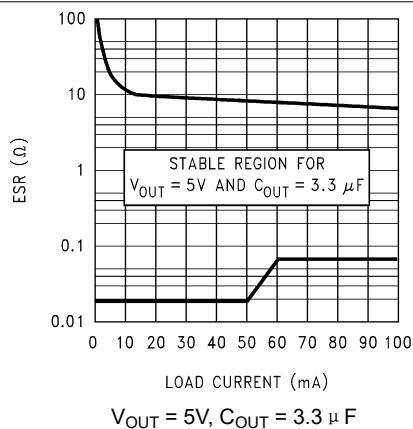
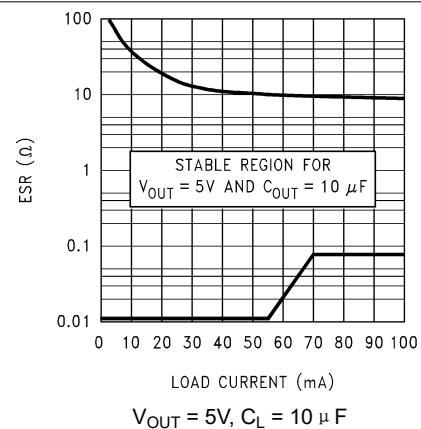
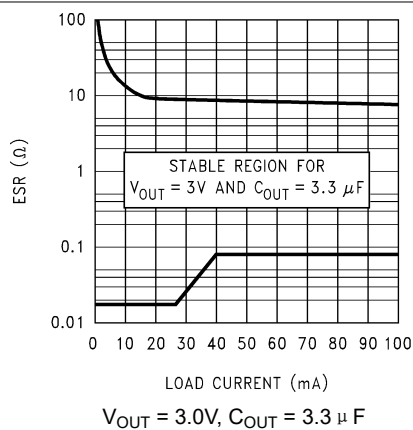

图 7-3. 5V, 3.3  $\mu\text{F}$  ESR Curves (Legacy Chip)
图 7-4. 5V, 10  $\mu\text{F}$  ESR Curves (Legacy Chip)
图 7-5. 3.0V, 3.3  $\mu\text{F}$  ESR Curves (Legacy Chip)
The output capacitor must meet both the requirement for minimum amount of capacitance and equivalent series resistance (ESR) value. Curves are provided that show the allowable ESR range as a function of load current for various output voltages and capacitor values (see 图 7-3, 图 7-4, 图 7-5, and 图 7-6).
- ESR range: See 图 7-3, 图 7-4, 图 7-5, and 图 7-6.